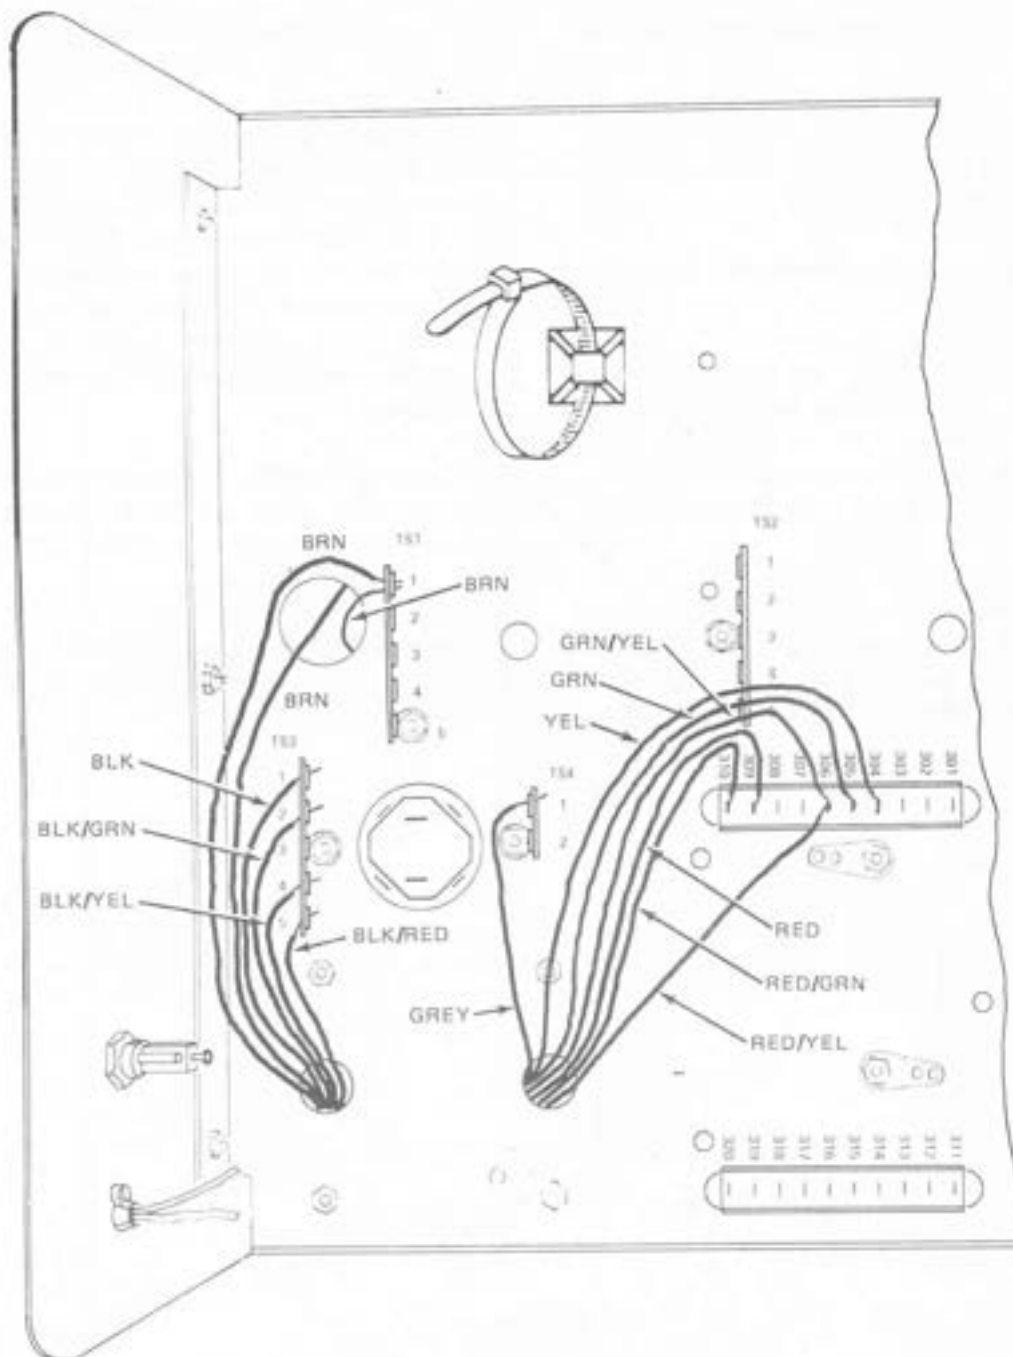

Figure 23. Connecting the power transformer wires.
Refer to Fig.23 and route each wire as shown:
- (3) Connect the green/yellow power transformer wire to terminal 306 (NS) ()
- (4) Connect the red/yellow power transformer wire to terminal 306 (NS) ()
- (5) Connect the green power transformer wire to terminal 305 (S1) ()
- (6) Connect the yellow power transformer wire to terminal 304 (S1) ()
- (7) Connect the gray power transformer wire to TS4-1 (NS) ()
- (8) Connect the black power transformer wire to TS3-1 (NS) ()
- (9) Connect the black/green power transformer wire to TS3-2 (NS) ()
- (10) Connect the black/yellow power transformer wire to TS3-4 (NS) ()
- (11) Connect the black/red power transformer wire to TS3-5 (NS) ()
- (12) Cut either of the brown power transformer wires to a length of 7". Save the leftover piece of brown wire for use in the next step. Now connect the 7" brown transformer wire to TS1-1 (NS) . ()
- (13) Connect one end of the brown wire you cut off in Step 12 to TS1-1 (NS). Route the other end of this brown wire through the chassis hole as shown in Fig.23 ()
- (14) Route the other brown power transformer wire through the chassis hole as shown ()